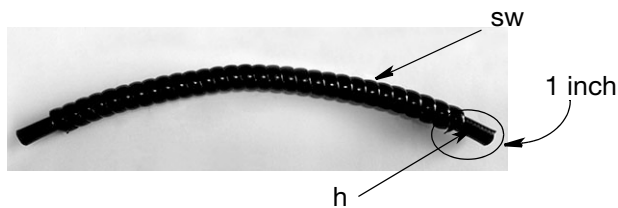

FIG. 62
2. Trim the spiral wrap (sw), leaving approximately 1 inch (25.4 mm) of the hose end unwrapped (FIG. 62).